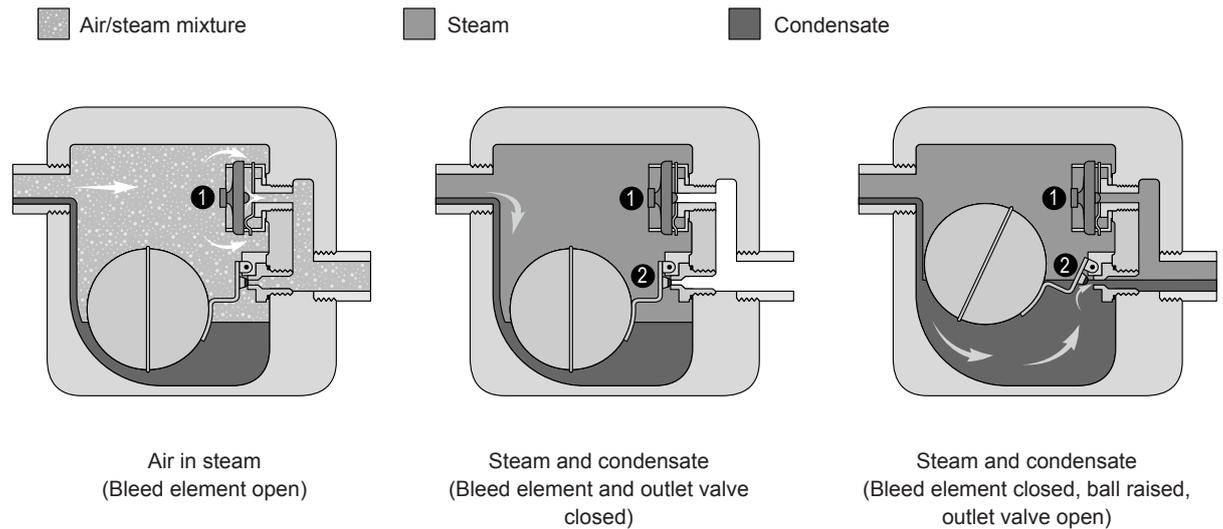

Fig. 19: How the ball float steam trap works
If there is air in the steam, the saturated steam temperature is not reached at the corresponding pressure and the thermal bleed element (1) opens (see Fig. 19. left). As soon as the air has escaped from the ball float steam trap, the saturated steam temperature rises and the thermal bleed element closes (see Fig. 19. centre).
The condensate from the valve unit collects in the float housing. If there is no or only a small amount of condensate in the float housing, the outlet valve (2) is closed, which is connected to the ball float via a lever (see Fig. 19. centre). If the condensate level rises, the ball float is raised, the lever opens the outlet valve and the condensate drains (see Fig. 19 right).